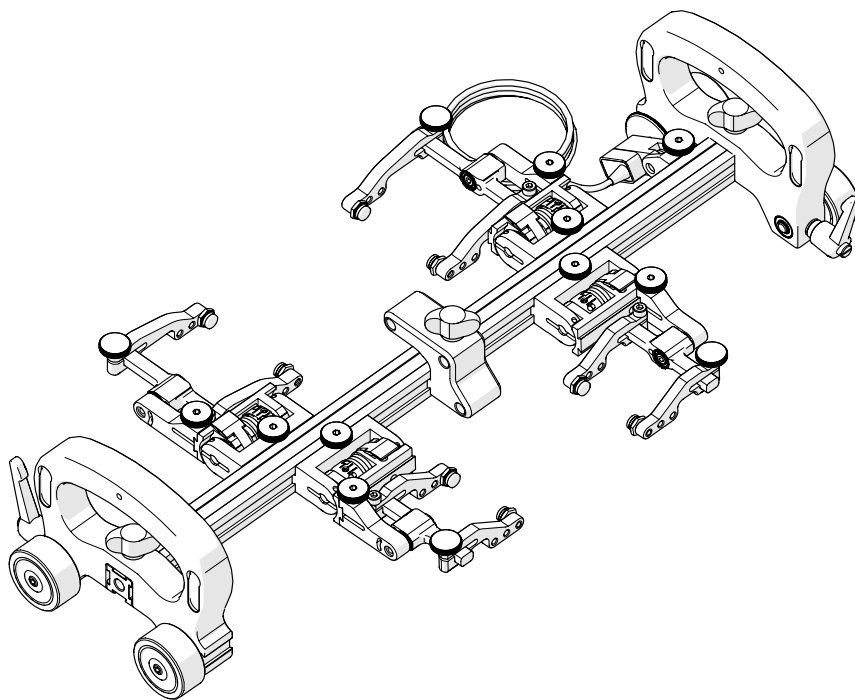

Fig. 105 - Assemble configuration
2. Assemble the appropriate configuration to the frame bar (Fig. 105). Install the wedge and probes that will be used (see Slip Joint Probe Holder on page 27).